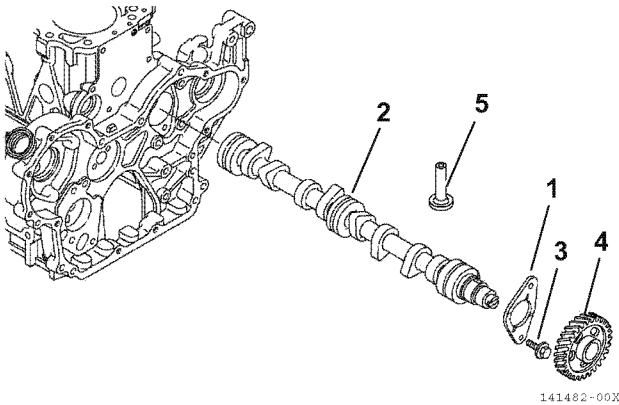

Figure 6-57
- Remove the two bolts (3, **Figure 6-57**) retaining the camshaft thrust plate (1, **Figure 6-57**).
- Rotate the engine in the engine stand so that gravity causes the tappets (5, **Figure 6-57**) to drop away from the camshaft lobes.
- Slowly pull the camshaft (2, **Figure 6-57**) assembly out of the engine being careful not to damage the front camshaft bushing.
- Remove the camshaft drive gear (4, **Figure 6-57**) only if the gear or camshaft require replacement. Use a knife-edge puller and a press to remove the gear. The gear is a shrink-fit and will need to be heated to 356 - 392 °F (180 - 200 °C) to remove.